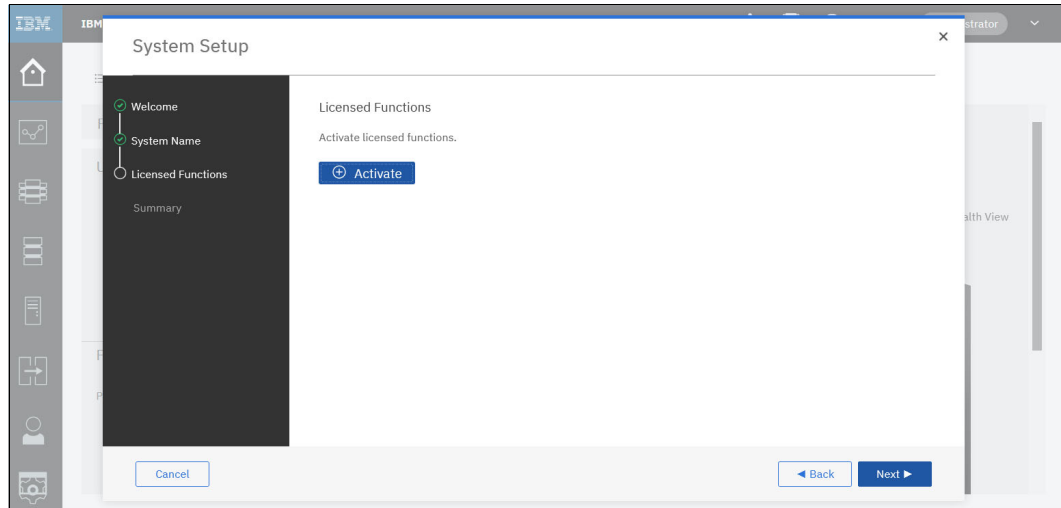

Figure 7-6 Adding the license keys: Further steps
- You can **Activate** further keys manually as needed, or click **Next** to proceed, as in Figure 7-6.